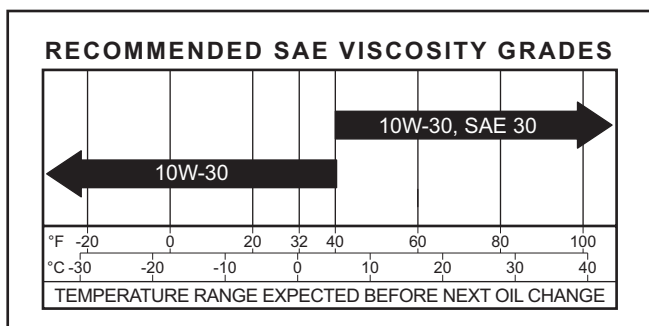

Figure 2. Viscosity Grades Table.
Use high quality detergent oil of **API (American Petroleum Institute) service class SJ or higher**. Select the viscosity based on the air temperature at the time of operation as shown in Figure 2.
1. Be sure to use the proper oil for the air temperature expected. See Figure 2 on Page 4.